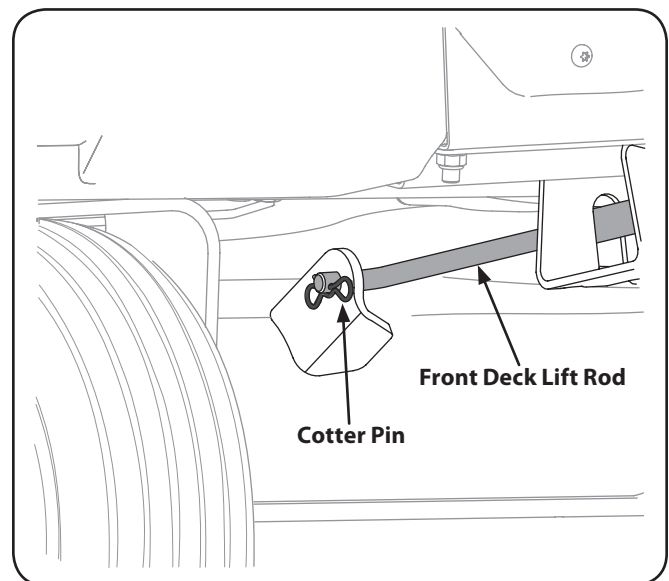

Figure 7-5
7. Pull the cotter pin out of the front deck lift rod securing it to the deck. See Fig. 7-5. Slide the deck lift rod out of the front hanger bracket.
6. Reinstall the front deck lift rod and secure in place with the cotter pin. Refer to Fig. 7-5.